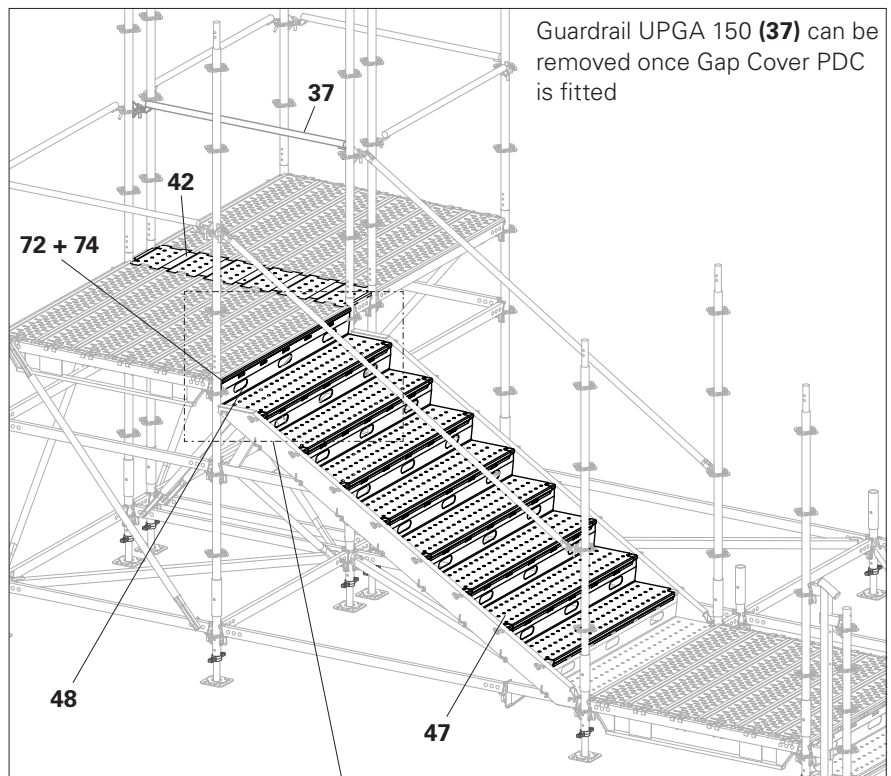
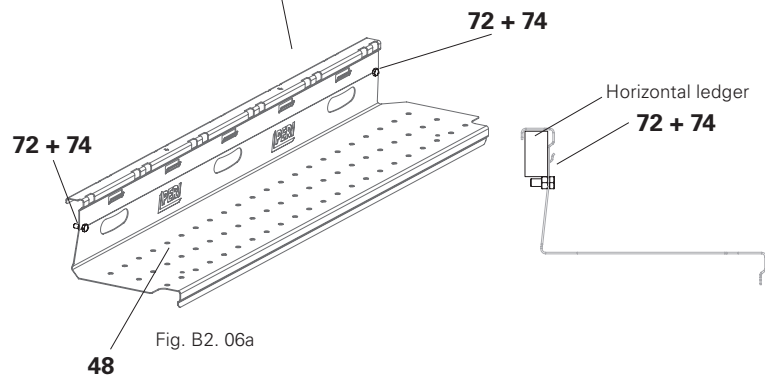
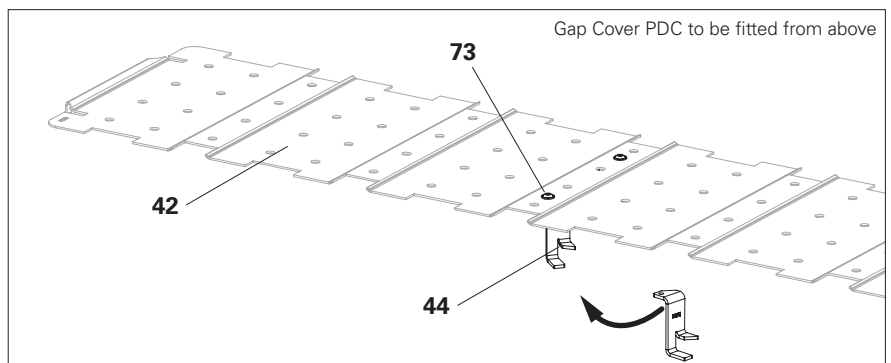

Fig. B2.06
Fig. B2.06a
Fig. B2.06b.
(Fig. B2.06 + Fig. B2.06a)
2. Place the Gap Cover PDC (**42**) on the deck gap, but do not bolt it down tightly yet. (Fig. B2.06 + Fig. B2.06b)